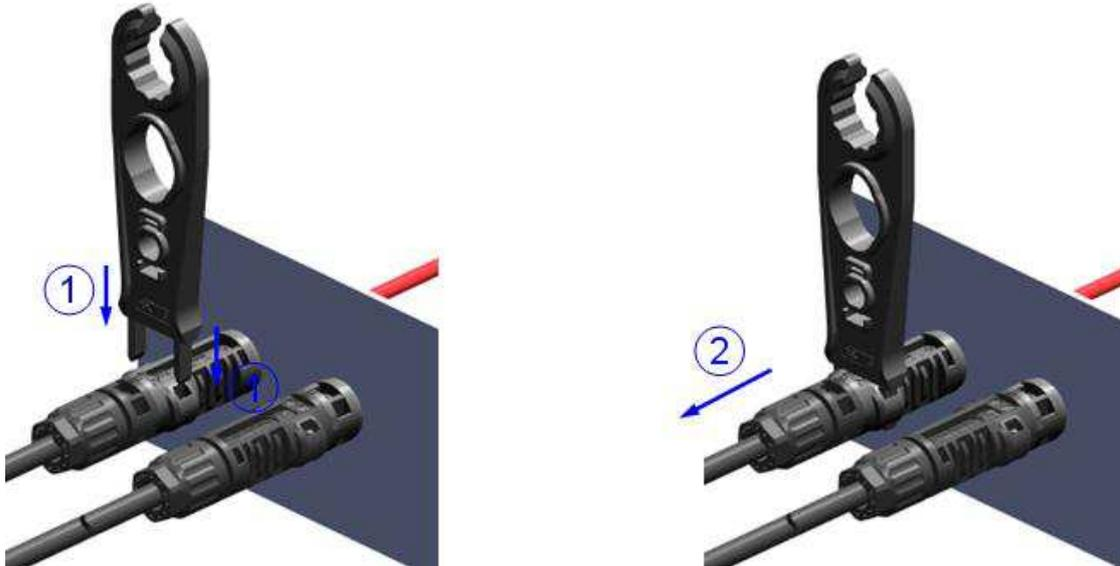

Figure 11
- ①. The locking mechanism is opened by depressing the latches with hand application tool (PN 2232232-1) as shown in **Figure 11**.
- ②. Disconnect the connector connections while the special tool insertion into the locking mechanism to depress the latches, and pull the connectors apart.